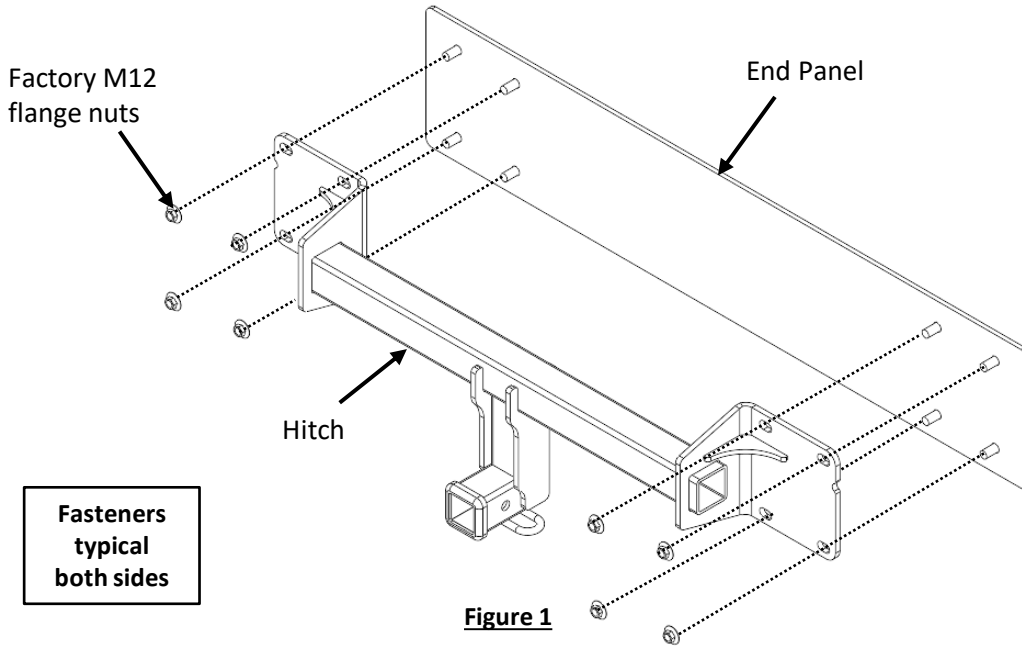

Figure 1
- (a) Using a 10 mm socket, remove (8) bolts from bottom of the fascia.
- (b) Using a flat head screwdriver, remove (3) rivets from the outside of wheel well liner and (1) rivet from inside of wheel well liner, per side. Using a 10 mm socket remove (1) bolt inside of wheel well liner, per side.
- (c) Open tailgate. Using a T30 torxbit, remove (1) screw from rear trim panel at the center. Remove the plastic trim.
- (d) Remove plastic cover from both driver and passenger side panels. Using a plastic trim tool, remove bolt cover from cargo tie hook. Using a 12 mm socket. remove (1) bolt from that hook, per side.
- (e) **Remove taillights** – Remove cover from passenger side panel. Using 8 mm socket with extension remove (3) hex nuts that hold the taillight from behind of the panel, per side. Remove taillights by disconnecting the wiring harness.
2. Remove bumper beam – Use 18 mm socket remove (4) M12 flange nuts from bolts of bumper beam on end panel, per side. Remove bumper beam and return to vehicle owner. *Tow eye will be inoperative after bumper beam removal. Please use chain ring on the hitch as alternative.
3. Install hitch – Raise the hitch into position aligning holes to the studs on the end panel. Loosely install (8) factory M12 flange nuts to the hitch, see **Figure 1**.